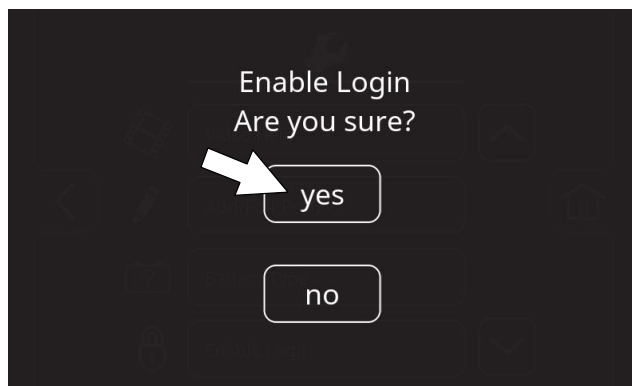

FIG. 179
5. Press the yes button to enable login (Figure 179).